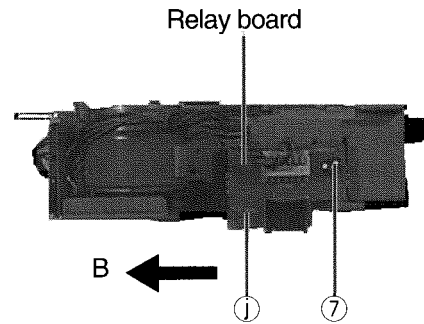

Fig . 15
■ Removing the Chassis Assembly (See Fig. 15,16)
8. Shift the one inter rocking sections ① securing the relay board in the direction shown by the arrow "B" to remove the printed circuit board.
9. Remove the screw ⑦ retaining the relay board.
10. Turn the back side down, remove the four screws ⑧ retaining the chassis assembly.